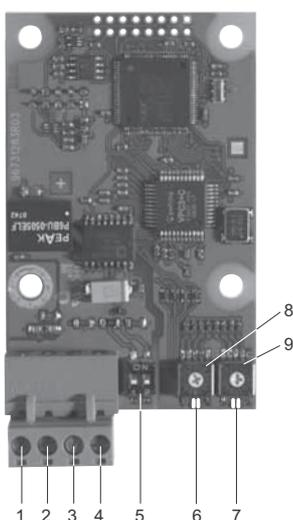

Fig. 8 CIM 150 PROFIBUS module
The power supply, pos. 4, fig. 8, must only be used for external termination.
The CIM 150 PROFIBUS module has two LEDs. See fig. 8.